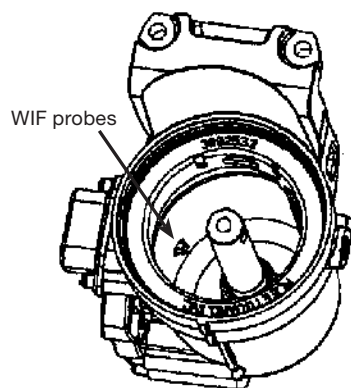

Figure 2. Location of the WIF sensor probes in filter bowl. Wipe with clean cloth.
5. Wipe water-in-fuel (WIF) sensor probes with a soft cloth to remove any debris (see Figure 2).